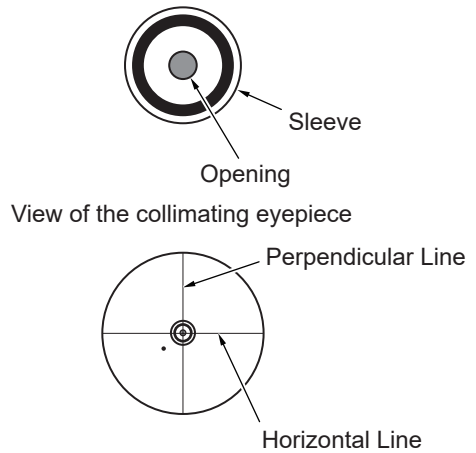

Figure C-7
4. Insert the collimating eyepiece and adjust the tilt of the secondary mirror with the set screws until the secondary mirror mark coincides with the center of the crosshairs. In the illustration Fig. C-7, the center of the collimating eyepiece matches the center of the crosshair, but the secondary dot is located low and to the left. The secondary must now be tilted toward the primary mirror mark, and the primary mirror mark must be moved upwards. Slightly loosen the push screws A, B and C after backing off the lock nuts. Loosen the large knurled nut and then tighten the push screws A, B and C.